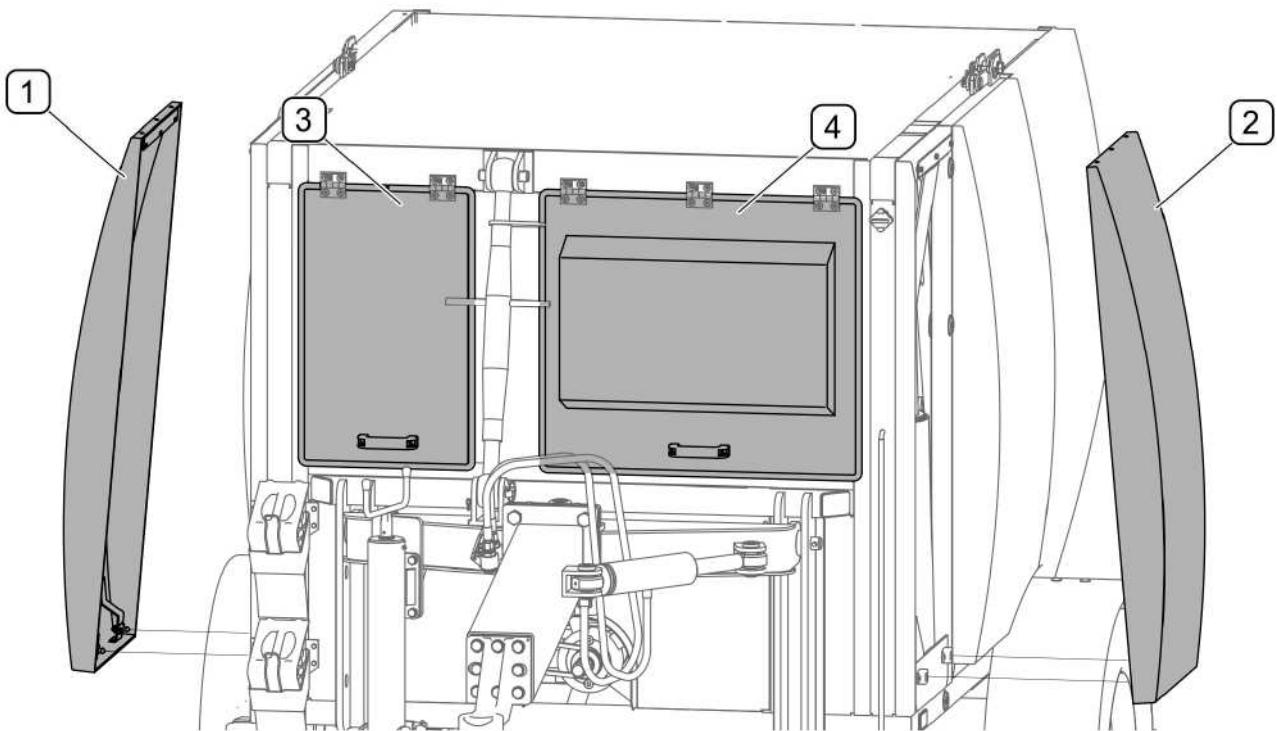

FIG. 5.1 Movable guards
(1) - side guard, right; (2) - side guard, left; (3) - front guard, right; (4) - front guard, left.
Side shields, right one (1) and left one (2), are disassembled for the time of maintenance (FIG. 5.1). Front shields (3) and (4) open upwards. They are kept in upper position by two gas springs.
To allow the opening and closing of the right side guard (FIG. 5.1) over the folding platform (FIG. 5.33) (only machines equipped with a folding side platform)
To install side shields (FIG. 5.1):